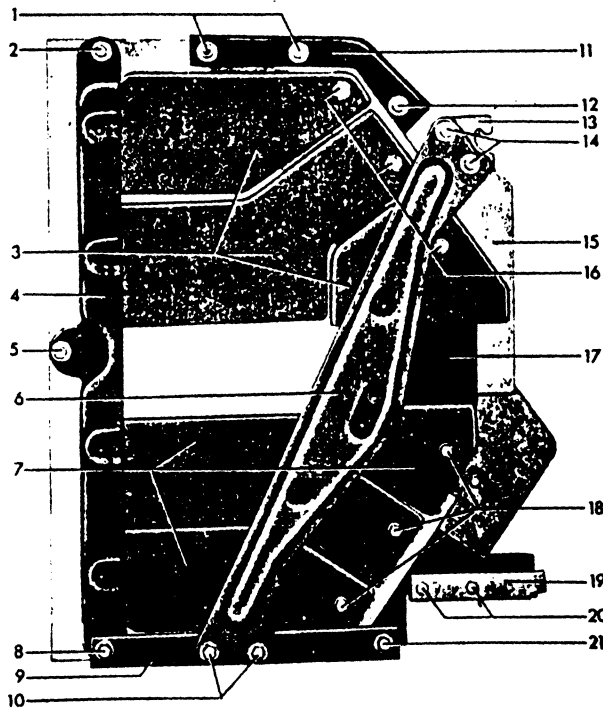
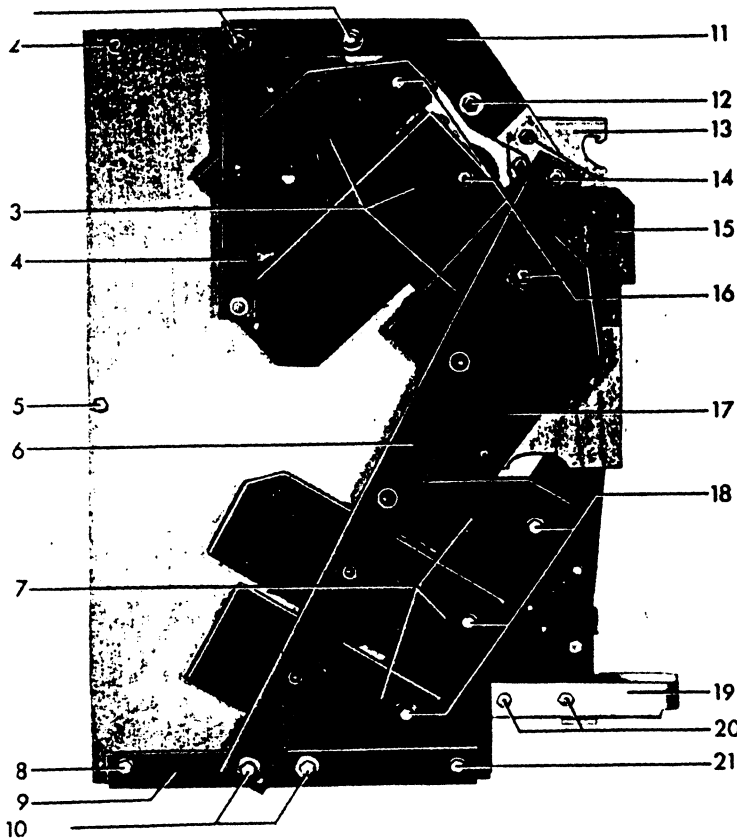

Figure 18A. (8030929) Early "-4" Design
Figure 18C (8040393) "-6" Design
To reassemble the interrupter to the breaker, rest the lower interrupter support (18) on the support bracket (17). Slide the arc chute forward, lifting it slightly to engage the supporting bolts (11) in the slots of the upper interrupter support (8). On the "-4" design check the spring baffle (11) Figure 22, to assure that it closes the gap between the upper insulation (15) Figure 18A & B and the back surface of the contact support (4) Figure 22. On the "-6" design check to assure that the upper insulation (15) Figure 18C is properly positioned within the barrier suspended from the stationary contact support (9) Figure 23.